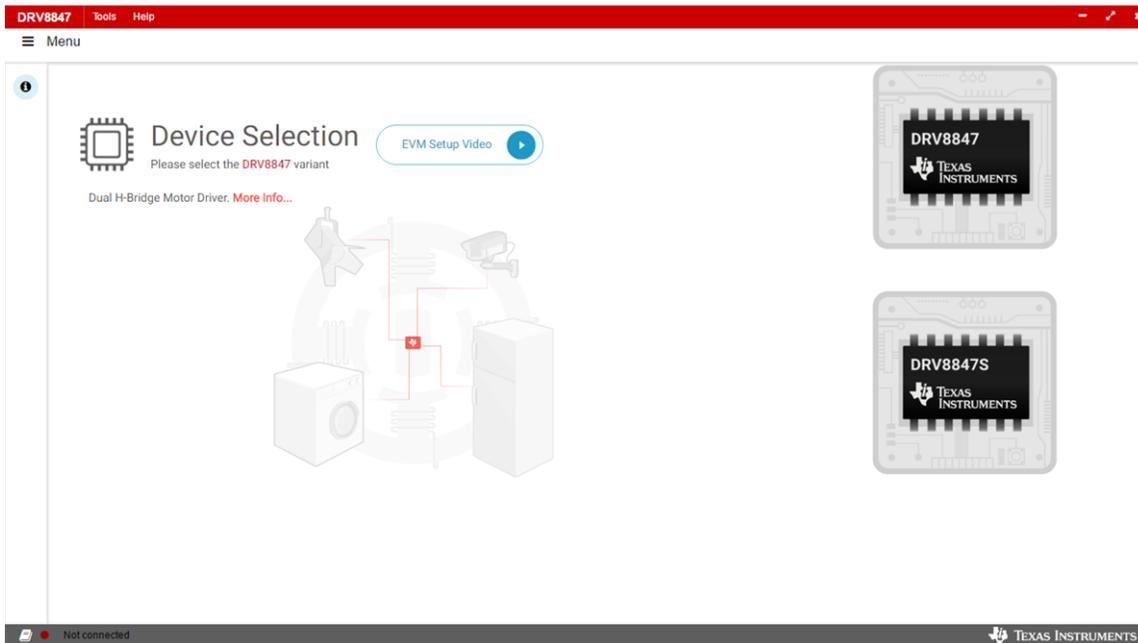

Figure 1. DRV8847x EVM GUI (Launch Page)
- Step 5. Select the device variant to be used on the launch page shown in Figure 1.